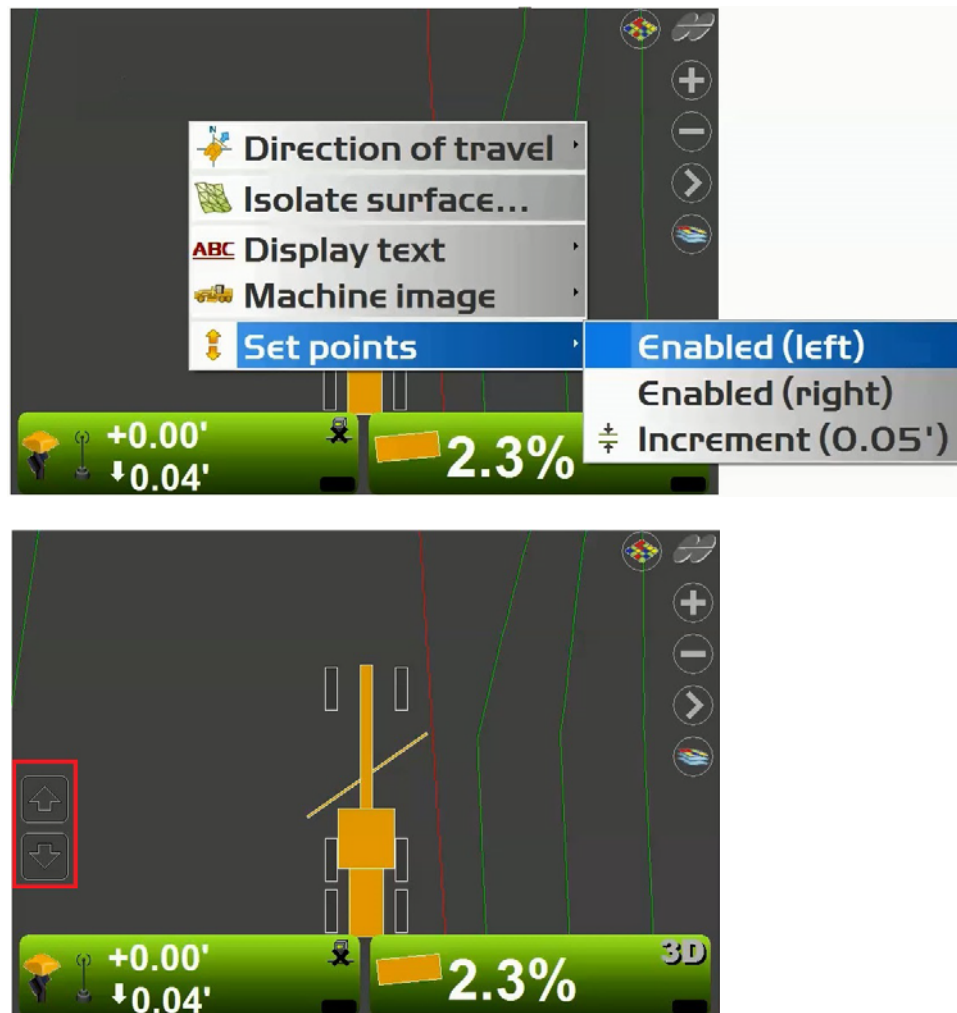

Figure 121: Set Points Pop-Up Menu and Left Arrows Enabled
1. Tap hold anywhere on the main screen. The **Set points** pop-up menu appears (Figure 121).
2. Tap **Set points** ▶ **Enabled (left)** or **Enabled (right)** to display the set-point (cut/fill offsets) adjustment arrows (shown in red in Figure 121).